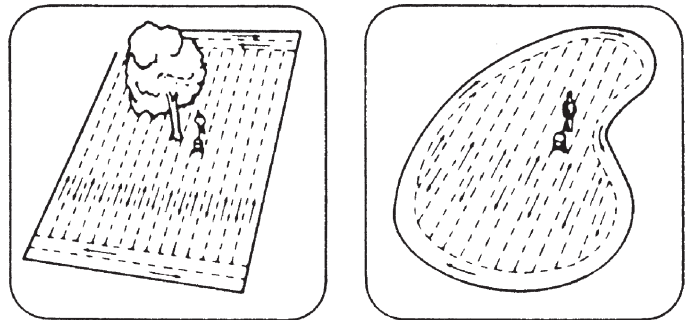

FIGURE 10
- For easiest application, spread across the shortest edges of lawn first, making two "header" strips for a turning area, and then spreading between the header strips. See figure 10.
- If lawn is odd shaped, spread a border around the edges and then spread between the border. See figure 10.